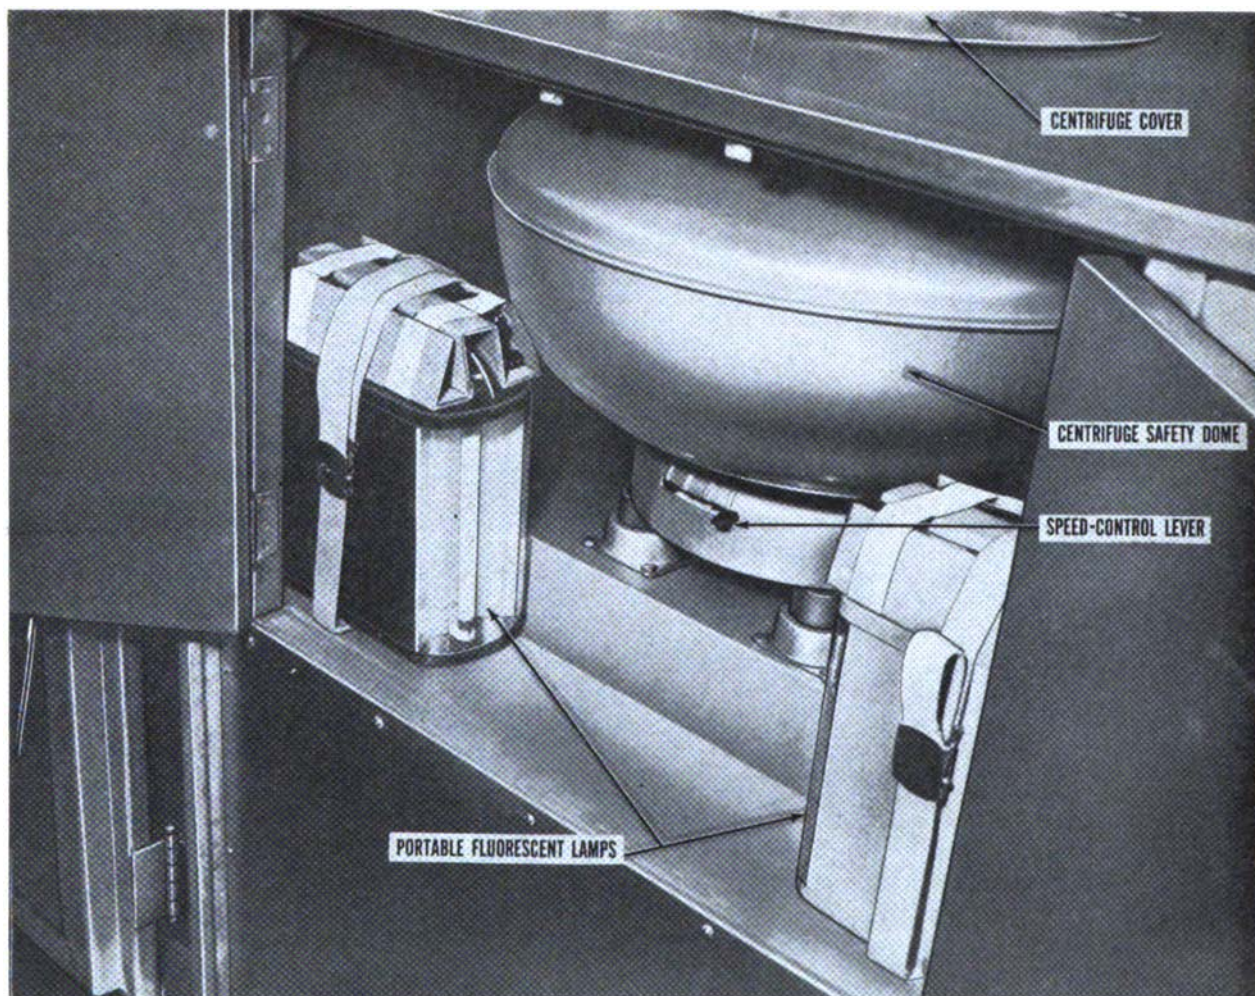

Figure 44. Centrifuge.
a. Description. The centrifuge (fig. 44) is located in cabinet AC-1. The unit is equipped with a 4-place, 100-milliliter pear-shaped-tube head, four 100-milliliter pear-shaped-tube aluminum shields, and eight 100-milliliter graduated centrifuge tubes. An electric motor with grease-sealed ball bearings, mounted inside the base, spins the head at speeds which are regulated by a built-in rheostat control. Circuit breaker 13 controls current to the centrifuge.